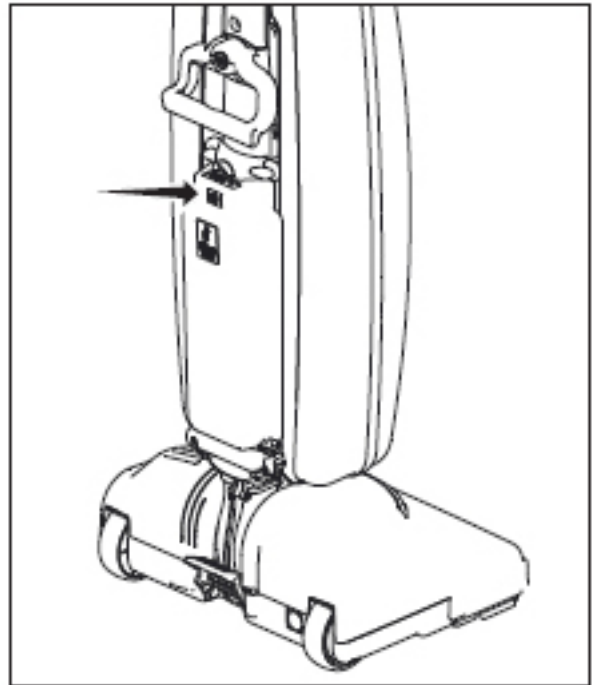

Fig. 1
- To remove the battery push up on the release button and lift the battery off (Fig. 1).